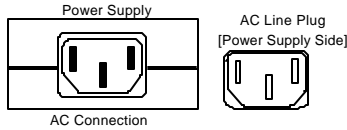

Figure 5: Power Supply AC Power Connection
- Plug the female end of your AC Line cord into the Power supply connector (refer to Figure 5).